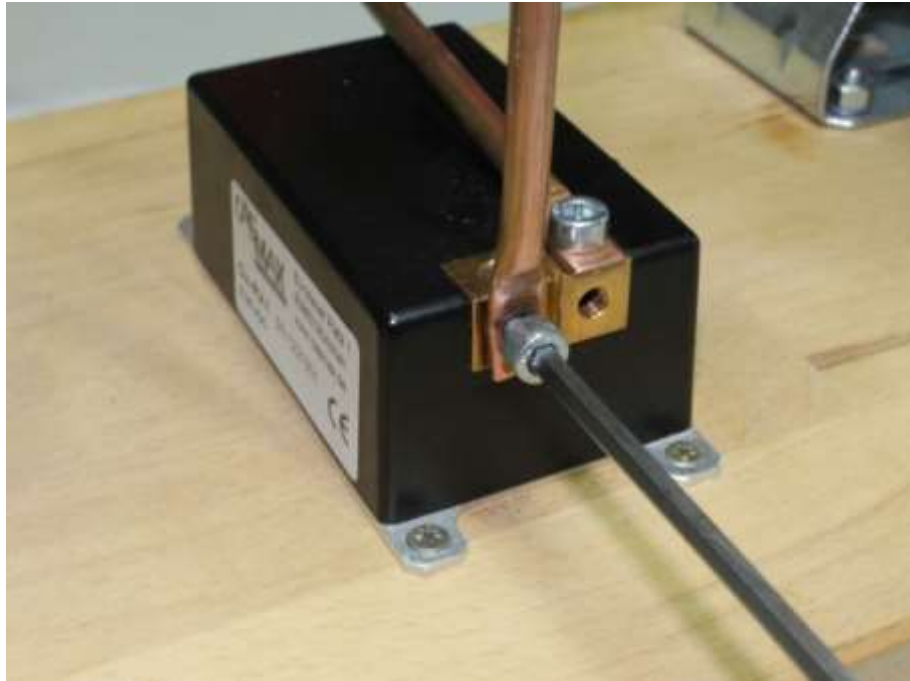

Figure 34: tightening of the stator ring
- Fix the stator ring with two M5x6 bolts to the stator housing. To guarantee a maximum contact area for electron transfer, make sure the contact areas at the copper ring are absolutely smooth and bare (remove edges and oxide film!) and tighten the connection screws properly (refer to Figure 34).